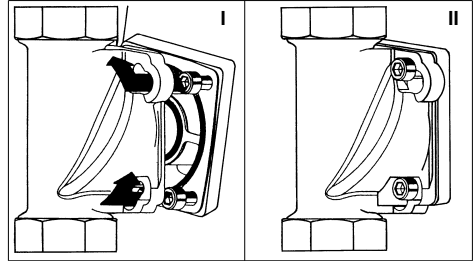

Fig. 8: Bayonet function (fig. similar)
- Position the water softening unit on the "G"-labelled flange (G=Gerät [device]) of the bypass valve so that the screw heads project through the bayonet holes (see fig. 8 I).
- Fully tighten the four M6×130 hexagon socket head screws (see fig. 8 II).